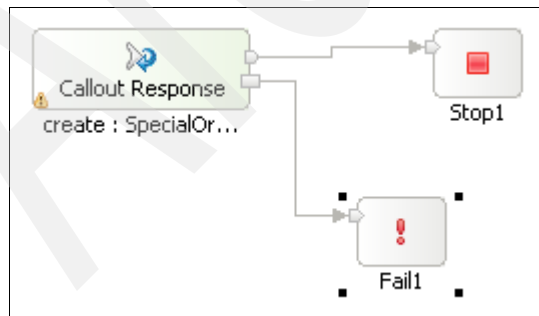

Figure 4-53 Response flow for `OrderPreProcessingMediation`
4. Wire the response flow as shown in Figure 4-53.